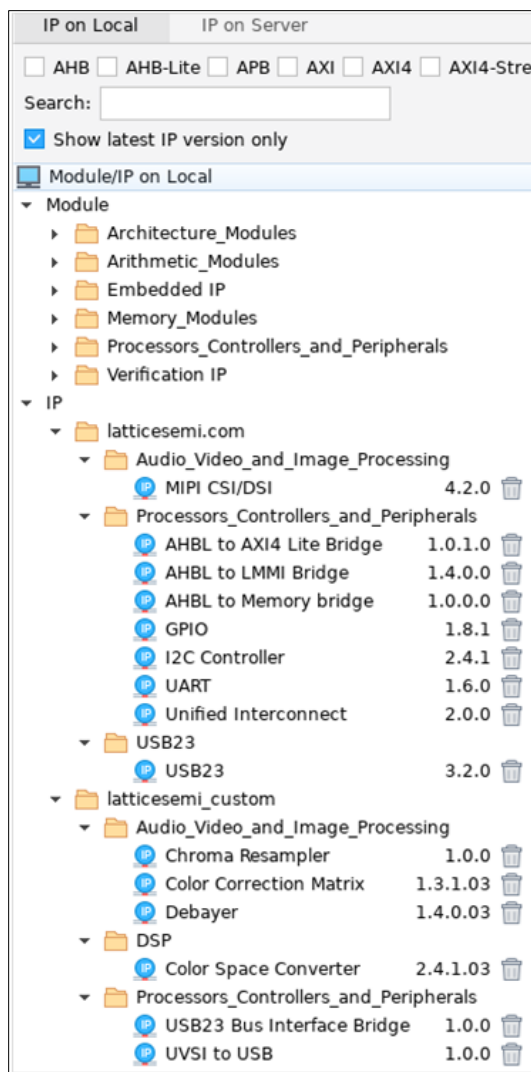

Figure 5.8. IP on Local Tab in IP Catalog
3. Before performing any IP reconfiguration, ensure that the IP has been downloaded and installed under **IP on Local**, as shown in Figure 5.8. In this reference design, there are a few IPKs that need to be installed into **IP on Local**. Follow the steps below to perform the IPK installation.